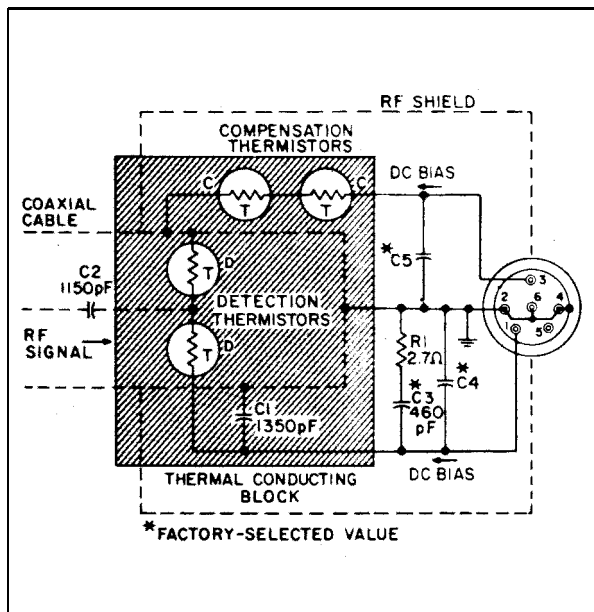

Figure 6. Schematic Diagram of a Model 478A Thermistor Mount when Connected to a 432 Power Meter
51. During 432 operation (see Figure 6) sufficient amounts of dc current are supplied from 432 Power Meter to heat the thermistors until their resistances are reduced to approximately  $200\Omega$  per series pair. Capacitor C1 is practically a short to RF. This causes "D" to appear series connected to the dc bridge, parallel connected to RF. In this manner, "D" appears to the dc bridge in the 432 Power Meter as a  $200\Omega$  resistance that terminates the coaxial cable into  $50\Omega$ . Capacitor C2 blocks any dc and audio power that may be present in the incoming signal and passes only RF power.
55. Under normal operation the total power applied to heat thermistor pair "D" (see Figure 6) consists of: 1) RF signal and 2) heat from the environment. The total power supplied to heat thermistor "C" consists of: 1) dc bias and 2) heat from the same environment. As "D" and "C" are matched thermally, the total amounts of heat applied to reduce their series resistance equally must be equal.
59. Match between the thermistors may be checked by comparing the thermistor resistances under simulated operating conditions. Equipment required is indicated in Figure 6. Make connections to the connector at the rear of the thermistor mount; pins are shown in Figure 6. Note that the small battery in series with the HP Model 3440 Digital Voltmeter is connected in opposition